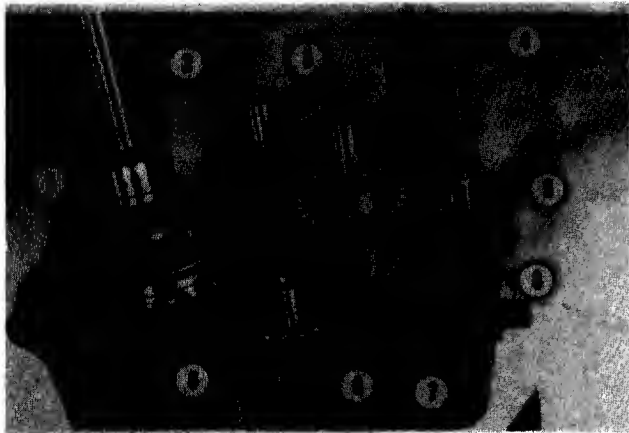

FIG. 4.5-TRANSAXLE GEARS & SHAFTS
6. Refer to Fig. 4.5 and remove the following: